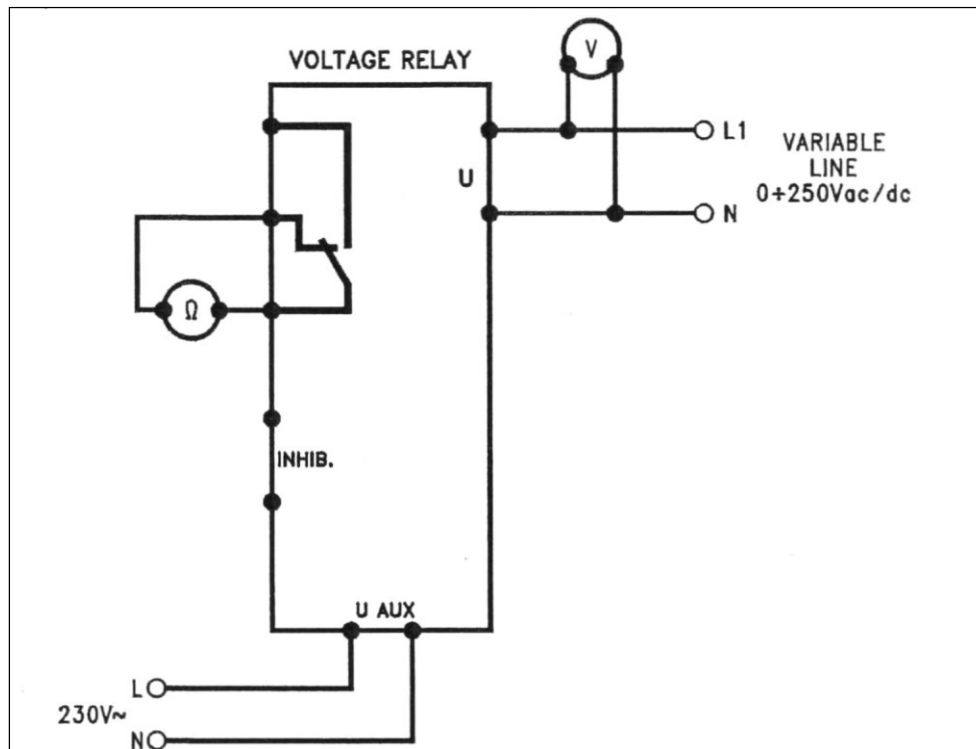

Figure 2-5: Connection Diagram for Testing a Relay for Fixed Time Maximum-Minimum Voltage, Alternated-Continuous
1. Follow the electrical diagram of Figure 2-5